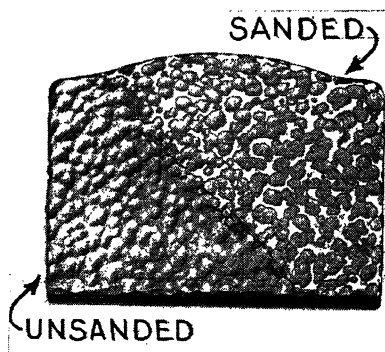

Fig. 153. Partly finished calendar holder showing the effect of sanding to produce an antique finish
applied over the entire surface. Figure 153 shows the production of this finish.
5. How was the "antique" finish in Figure 153 produced?